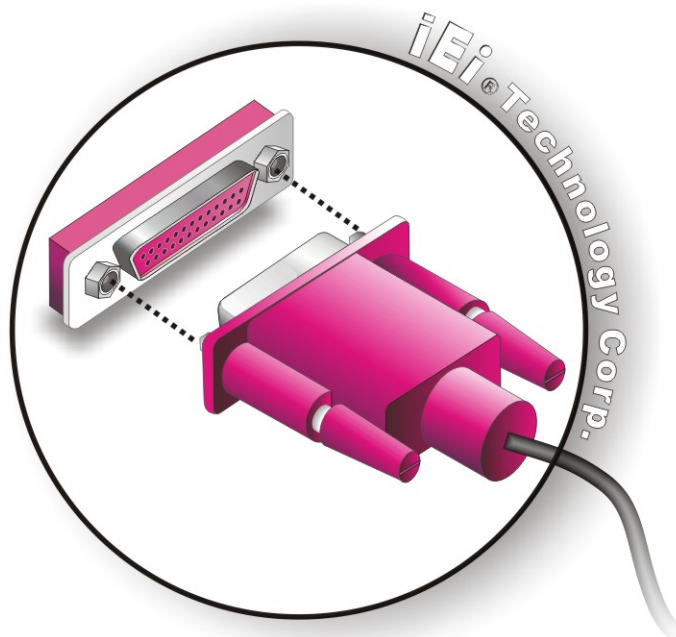

Figure 5-18: Parallel Device Connector
Step 2: Insert the DB-25 connector. Insert the DB-25 connector of a parallel device into the DB-25 connector on the external peripheral interface. See Figure 5-18.